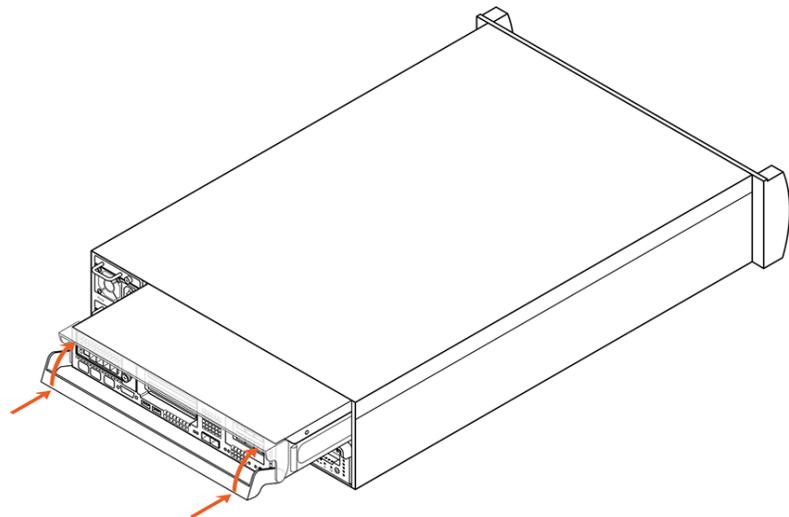

Figure 14-18. Reinstalling the Controller
4. Align the controller with the controller slot. See Figure 14-18.